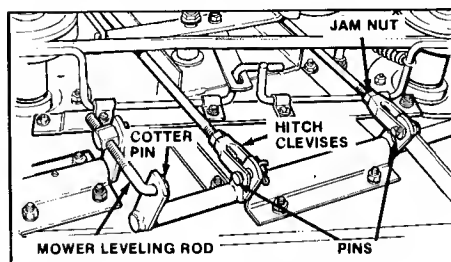

Figure 39. Levelling Mower
5. Remove the cotter pin holding on the mower levelling rod (figure 39). Shorten the rod to raise the left side of the mower, or lengthen the rod to lower the left side of the mower. Put the levelling rod back in its hold and recheck the measurements. When both sides are the same height, replace the cotter pin in the levelling rod.
8. Remove the cotter pins and pins from the hitch clevises (figure 39). Turn each clevis an equal number of turns in the same direction. Shorten the hitch rods to raise the front of the mower, lengthen the hitch rods to lower the front of the mower.